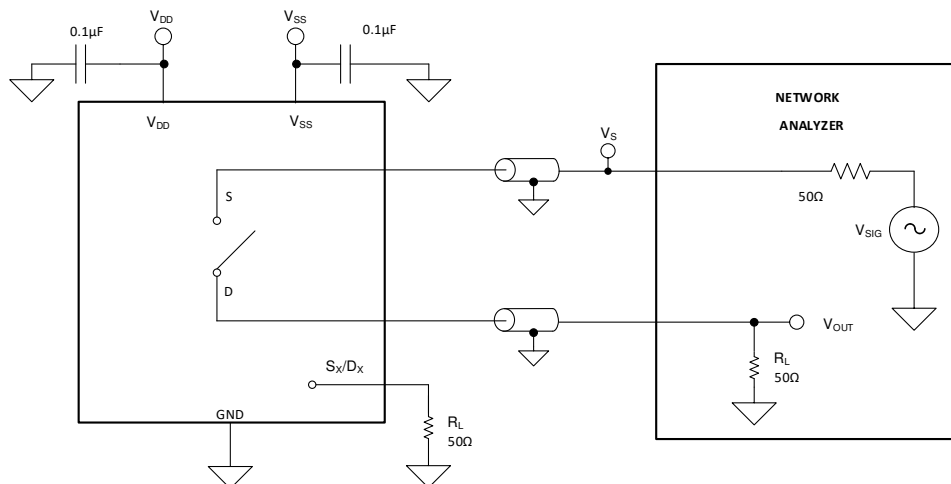

图 7-8. Off Isolation Measurement Setup
Off isolation is defined as the ratio of the signal at the drain pin (D) of the device when a signal is applied to the source pin (S_x) of an off-channel. 图 7-8 shows the setup used to measure off isolation. Use the off isolation equation to compute off isolation.